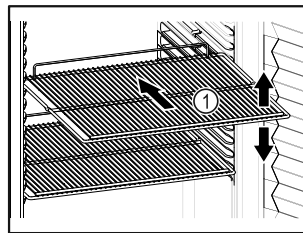

Fig. 59 Example illustration
- If storage surfaces Fig. 59 (1) are movable, adjust them according to height.